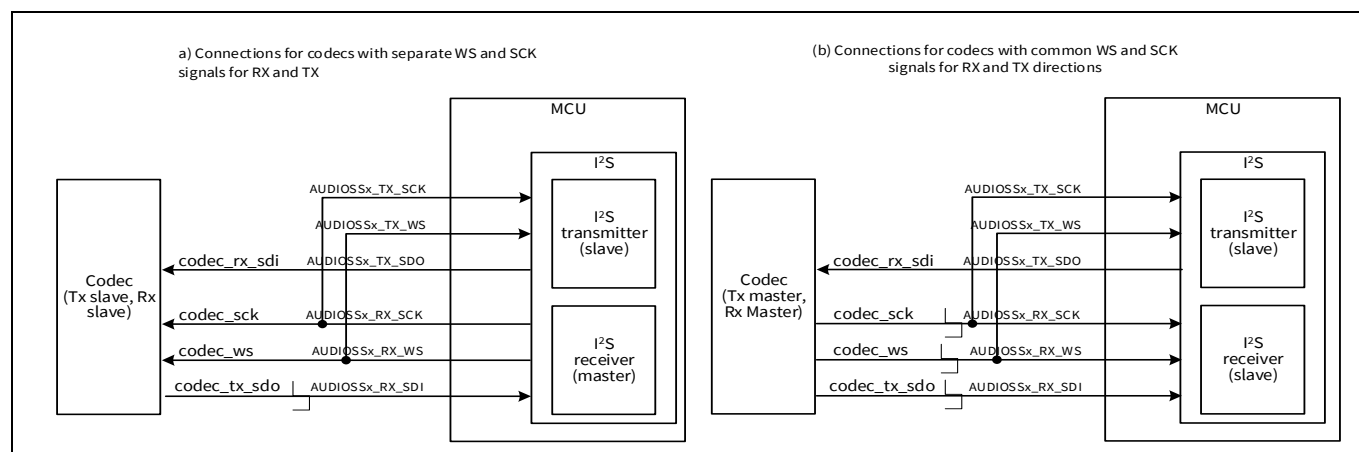

Figure 32-5. Interfacing with codecs having common WS and SCK signals
- Codecs with separate WS and SCK signals for the RX and TX directions: To interface with these codecs, the connections between the I²S block and the codec device will be as shown in Figure 32-5 where the I²S TX signals (AUDIOSSx_TX_SCK, AUDIOSSx_TX_WS, AUDIOSSx_TX_SDO) connect to the codec RX signals, and the I²S RX signals (AUDIOSSx_RX_SCK, AUDIOSSx_RX_WS, AUDIOSSx_RX_SDI) connect to the codec TX signals. The direction of SCK (AUDIOSSx_TX_SCK, AUDIOSSx_RX_SCK) and WS (AUDIOSSx_TX_WS, AUDIOSSx_RX_WS) signals depends on which device is the master and which device is the slave.
- Codecs with common WS and SCK signals for both RX and TX directions: There are two possible configurations to interface these codecs with the MCU as shown in Figure 32-5. In both configurations, the SCK signals (AUDIOSSx_TX_SCK, AUDIOSSx_RX_SCK, codec_sck) are shorted externally. The same goes for the WS signal connections as well (AUDIOSSx_TX_WS, AUDIOSSx_RX_WS, codec_ws). Ensure that only one block is driving the SCK and WS lines. So when the codec acts as the slave device, the I²S RX block should be in the master mode, and the I²S TX block should be in the slave mode (or I²S RX as slave and I²S TX as master). When the codec acts as the master device, both the I²S RX and I²S TX blocks should be in slave mode.